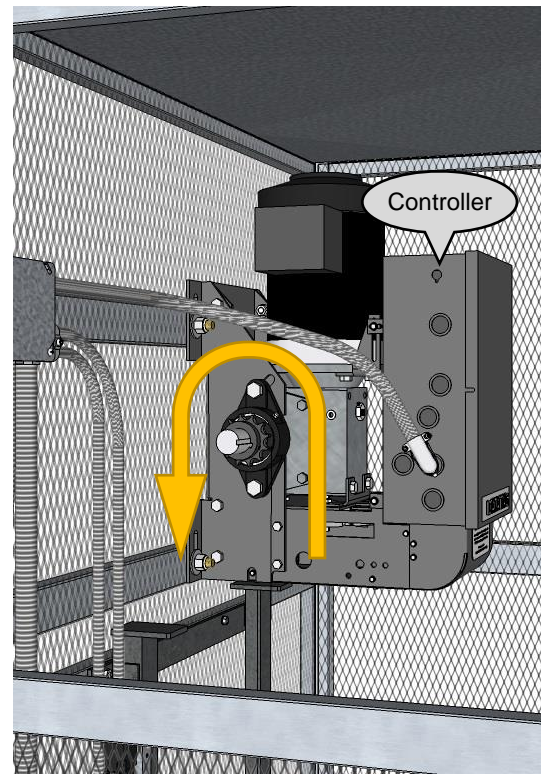

Figure 25
- 3** Watch the rotation of the sprocket when the up contactor is pressed. If the direction of rotation is not the same direction as shown in **Figure 25**, go on to **Step 4**. If the direction of rotation is the same as shown in **Figure 25**, go on to **Step 5**.